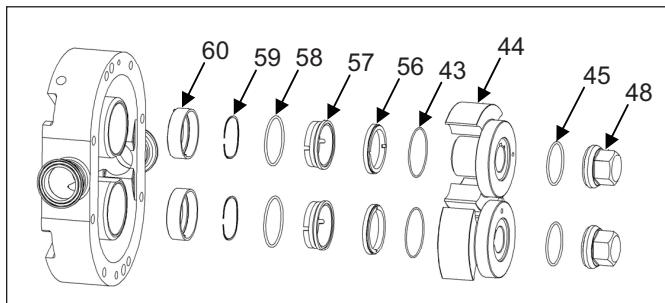

Figure 25. Single Mechanical Exploded View
3. Remove the rotors by orientating them perpendicular to each other and then pulling them out. It is important to be cautious with the rotors so that they are not damaged. If rotors are difficult to remove, use a nylon or wood lever to pry them out without damaging the body or the rotors. If necessary, remove the body hold down screws and tap the body forward to loosen the rotors. Use (*Figure 25*) to ensure that all parts are removed.